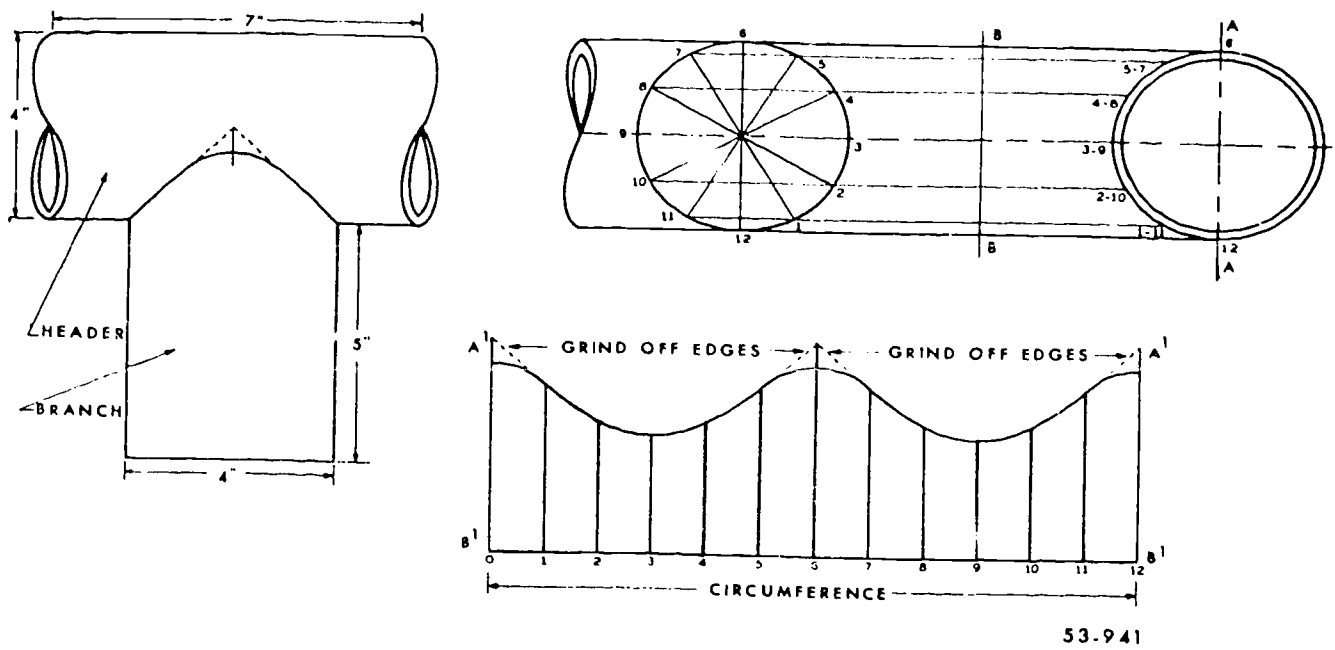

Figure 7-9. Layout pattern for a tee.
**Tee and Elbow.** If a pattern must be made for a pipe tee, the joint would be laid out as shown in figure 7-9. The same procedure, as outlined for a sheet metal pipe can be applied. The patterns would then be wrapped around the pipes, marked, and cut to form the tee joint.